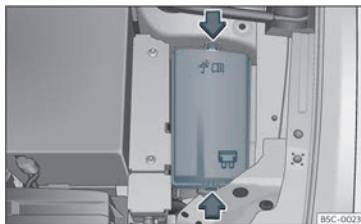

Fig. 52 In the engine compartment: fuse box cover.
- Press the locking tabs to release the fuse box cover»» **Fig. 52** .